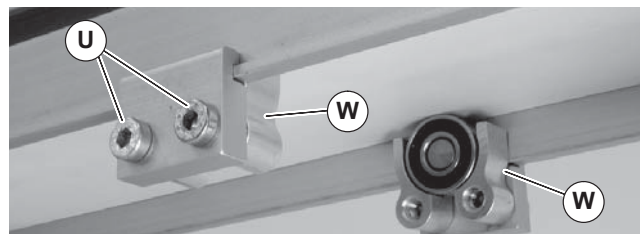

Figure 10
3. Install roller assemblies (Figure 10, item W) as shown. Tighten screws (U) to 60 in-lb (7 Nm).